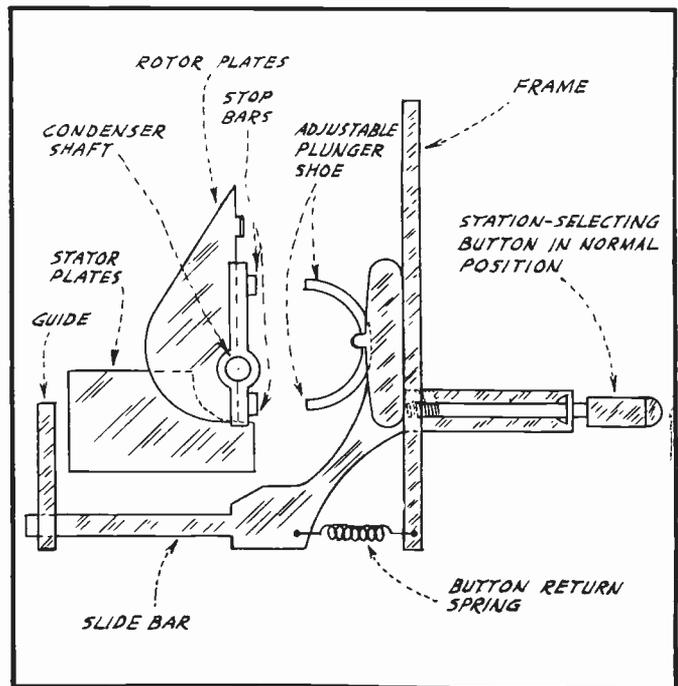
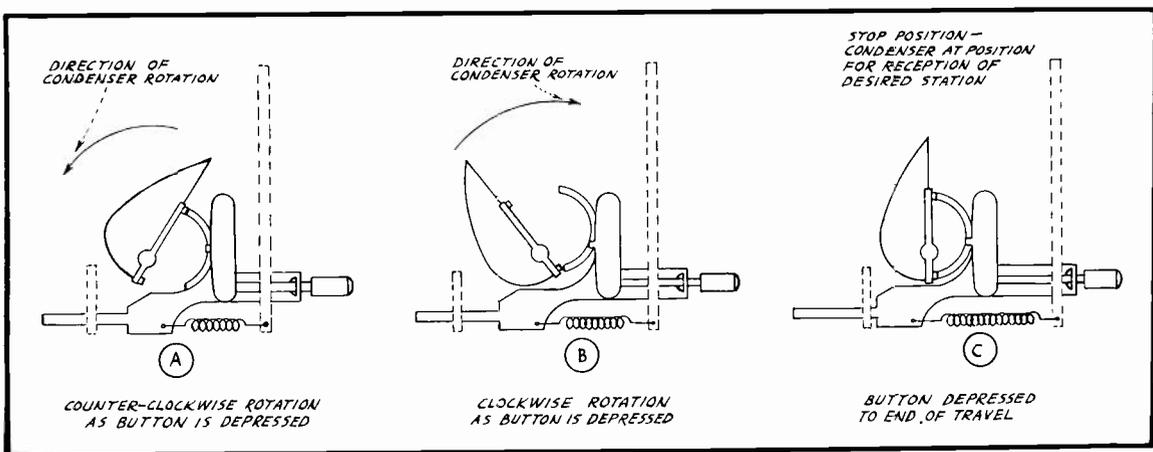

FIG. 7
FIG. 8
An end view of a typical mechanically-operated push-button tuning assembly is shown in Fig. 7. In this system the gang condenser and the push-button plunger mechanisms are assembled as one unit. Consequently, when the station button in Fig. 7 is depressed, and its plunger shoe comes in contact with the stop bar that is fastened to the drive-shaft of the rotor plates, the gang condenser will be rotated accordingly, until the button has completed its inward travel, at which time rotation will stop, and the desired station will be tuned-in.
**STATION STOP:** The station stop consists of two bars running parallel to and also fastened to the shaft of the gang condenser. One of the bars is placed on each side of the rotor shaft. Thus when the station button in Fig. 7 is depressed and its plunger shoe comes in contact with one of these bars, the gang condenser will be rotated, until each of the stop bars strikes an extremity of the plunger shoe. Rotation will then stop and the station will be tuned-in.
The reason for two stop bars is to enable the condenser to be rotated to the desired station position regardless of the rotor-plate position before the desired button plunger is depressed. This is more fully illustrated in the three views appearing in Fig. 8.
Upon close inspection of the various views presented in Figs. 7 and 8, you will observe that Fig. 7 shows a station-selecting button in its normal position, while (A) of Fig. 8 shows a button that has been depressed to a point before reaching its end of travel. You will further observe at (A) of Fig. 8, that as the button is depressed, its plunger shoe will first come in contact with the upper condenser stop, rotating the condenser in a counter-clockwise direction until both plunger shoe tips are flush against both condenser stops, as shown at (C) of Fig. 8.
Drawings (B) and (C) of Fig. 8 show the mechanical action when the rotor plates must be turned in a clockwise direction to reach the position for the desired station. You will note at (B) that when such is the case, the lower plunger shoe tip will first strike the lower stop bar and force the condenser plates to turn in a clockwise direction until the stop position (C) is reached.